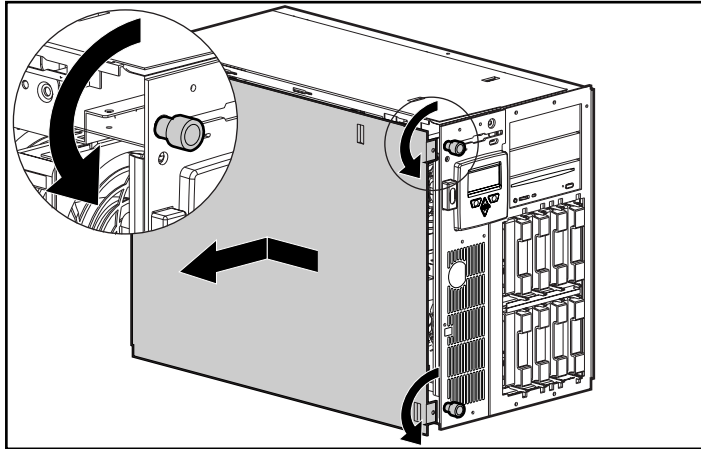

Figure 4-1. Removing the server cover
1. Remove the side panel as shown in Figure 4-1.